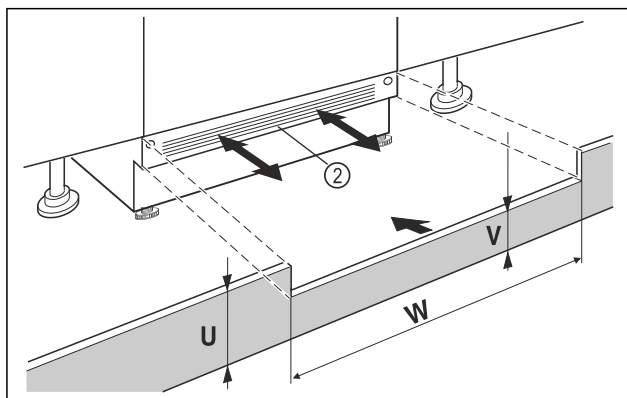

Fig. 10 Example illustration
- ▶ Put on the appliance base cover Fig. 10 (2) but do not fix it in place yet.
- ▶ If the base panel is visible Fig. 10 (2), pull it forwards so that the front edge of the ventilation grille and the unit base panel are level.
- ▶ If the base panel is concealed Fig. 10 (2), push it all the way back.
- ▶ Ensure that the ventilation slots are completely free: If necessary, cut the height of the unit base panel Fig. 10 (U) to size!
- ▶ Adjust the web height Fig. 10 (V) under the appliance base panel Fig. 10 (2) along the niche width Fig. 10 (W).